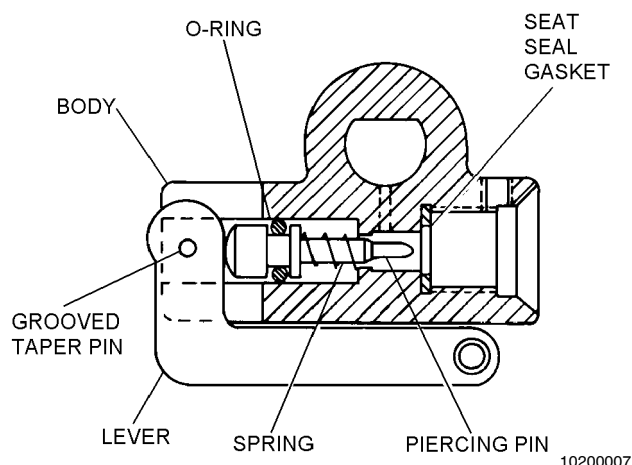

Figure 20-7. CO₂ Inflation Assembly
3. Remove grooved taper pin (retaining lever) from inflation valve, using awl and mallet. See figure 20-7.